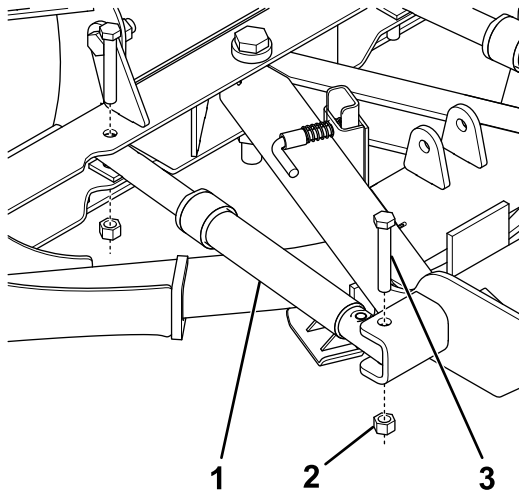

Figure 7
5. Secure the hydraulic angle cylinders to the plow using 2 bolts (5/8 inch) and locknuts (Figure 7).